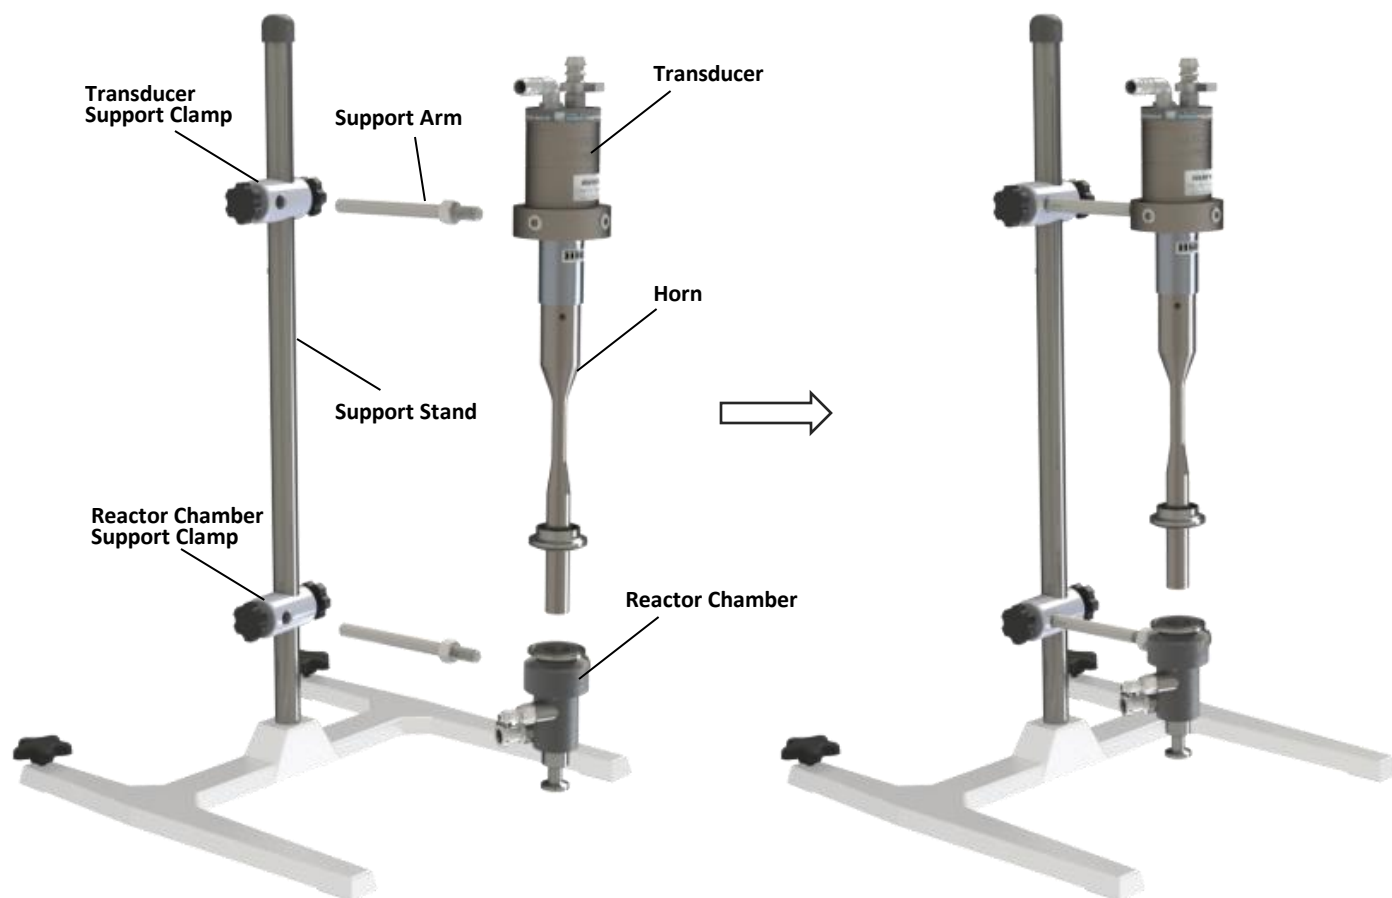

Figure 14. Step 2 of the reactor chamber assembly procedure.
The support arm (Fig. 14) is screwed into the transducer collar and used for positioning the transducer in a clamp holder on a support stand. The support arm consists of a threaded metal rod, a counter-nut, and a washer. Place the counter-nut onto the thread followed by the washer. Insert the threaded side of the rod into the threaded hole located on the collar of the transducer. When the rod has fully penetrated the thread, tighten the connection with the counter-nut. Always use the provided support arm to secure your ultrasonic processor. **NEVER** support the transducer with a clamp on other areas of the transducer.
Step 2. (Figure 14)